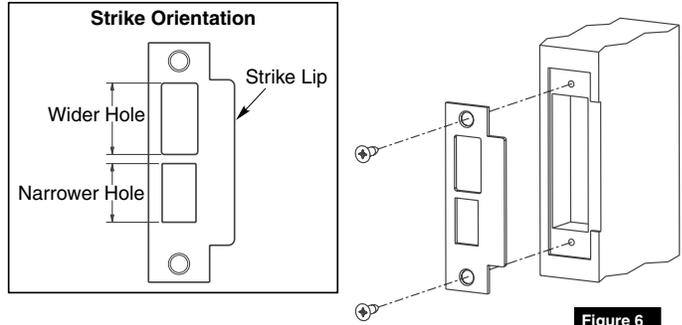

Figure 6
1. Install strike using shorter 3/4" strike mounting screws. If strike box is needed, insert between strike and door frame. (Figure 6)